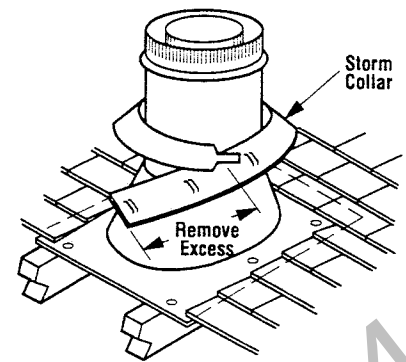

Figure 34
J. Install the storm collar, supplied with the flashing, over the vent/flashing joint. Wrap the storm collar around the vent noting which locking groove closely aligns with the tab (Figure 34). Pencil mark excess material, unwrap and trim excess with shears. Reposition collar, insert tab through both slots, pull tab so that collar is tight around vent. Slide collar down until it meets top of the flashing. Bend tab back over slot. Apply noncombustible caulking or mastic around circumference of the joint and the tab slot area to provide a water tight seal.